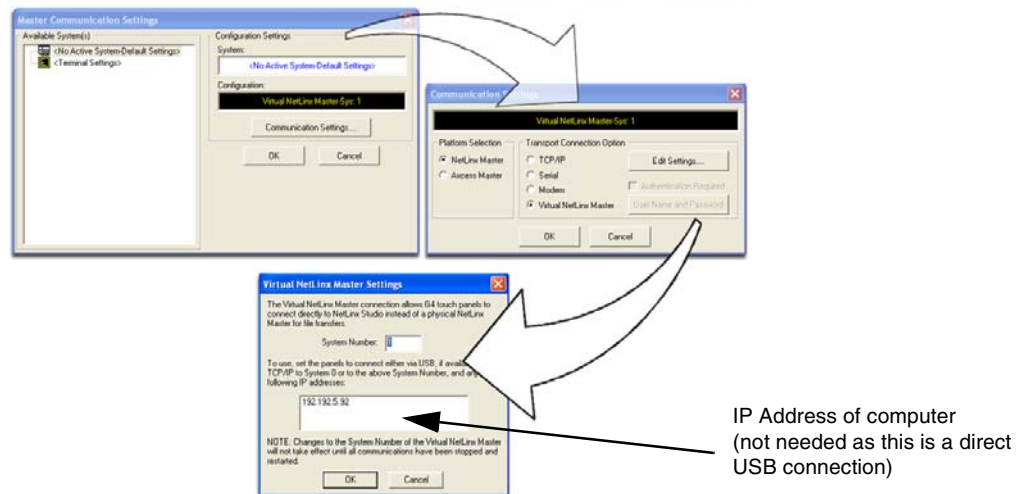

FIG. 56 Assigning Communication Settings for a Virtual Master
3. Select **Settings > Master Communication Settings**, from the Main menu to open the Master Communication Settings dialog (FIG. 56).
7. Click the **Edit Settings** button (on the *Communications Settings dialog*) to open the Virtual NetLinx Master Settings dialog (FIG. 56).